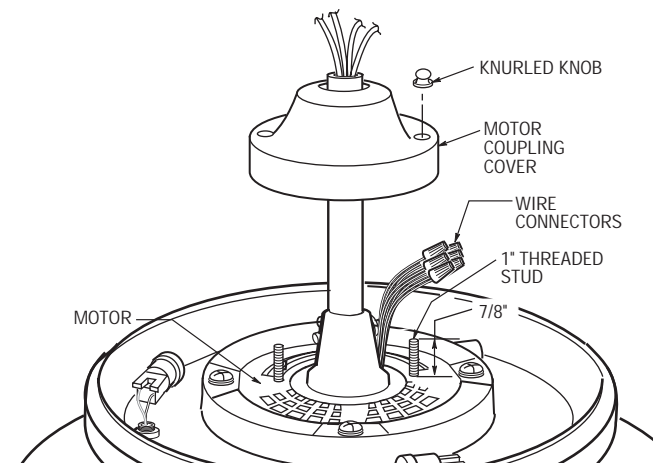

Figure 6
9. Screw two 1" threaded studs (supplied) into the motor (Figure 6). Leave approximately 7/8" of the stud extending above the motor. Slide the motor cover over the downrod and rotate the cover until the threaded studs protrude; install two knurled knobs (supplied) to secure the cover.